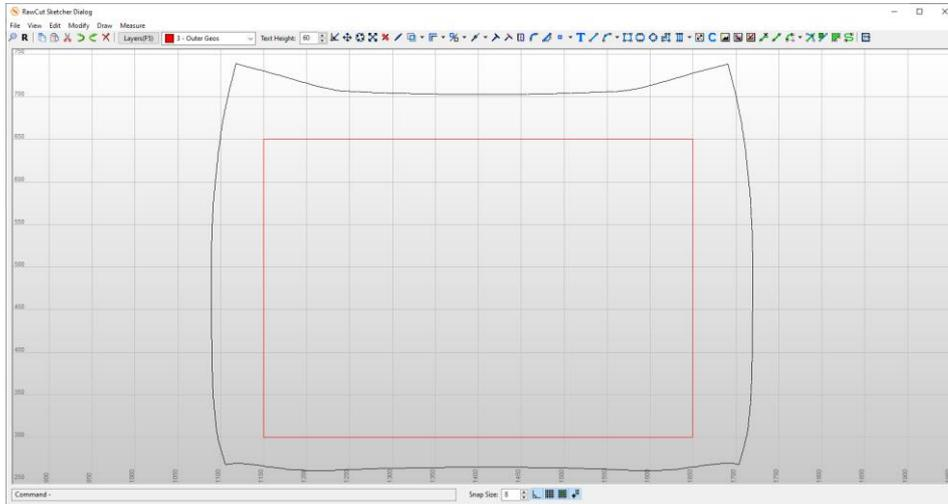

Figure 404
- Inside the RawCut Sketcher Dialog you can do basically everything you want. You can even delete or deactivate all existing geometries and just add a rectangle geometry on layer 3 as shown in Figure 404.